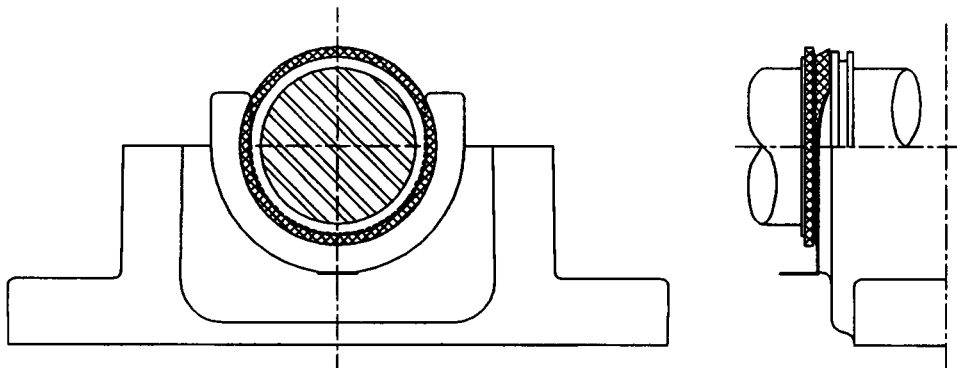

Figure 2c
7. Locate the bearing and seal assembly(ies) into the housing base (Figure 2c). Make sure the seal assembly(ies) turns freely in the base by rotating shaft. See bearing mounting instructions for proper grease fill of bearing insert and housing.